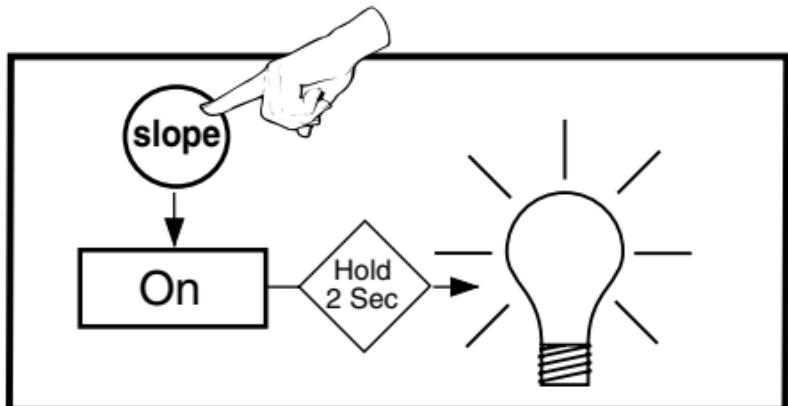

Figure 17: Turning the Backlight On
- To turn on the backlight (after turning on the LaserVision level), press and hold the SLOPE button for two seconds (Figure 17, page 15).
- To turn off the backlight, press and hold the SLOPE button for two seconds (Figure 17, page 15).